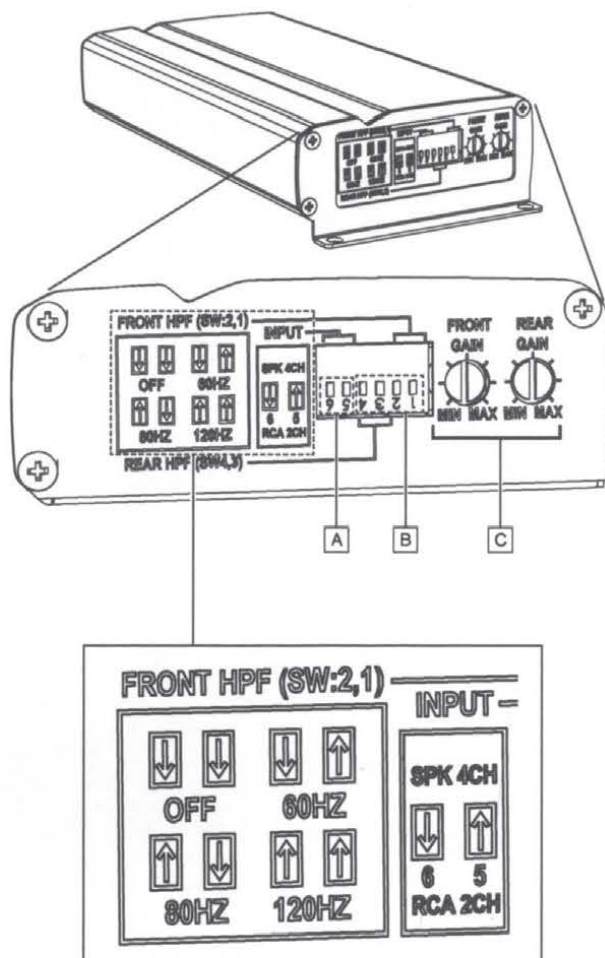

Fig. 2
SWITCH SETTINGS (Fig. 2)
⑧ Input Signal Type Switch
- Refer to figure 2
⑨ Input Configuration Switch
PARAMÈTRES DES SÉLECTEURS (Fig. 2)
- c) Consultez la figure 2
CONFIGURACIÓN DE LOS INTERRUPTORES (Fig. 2)